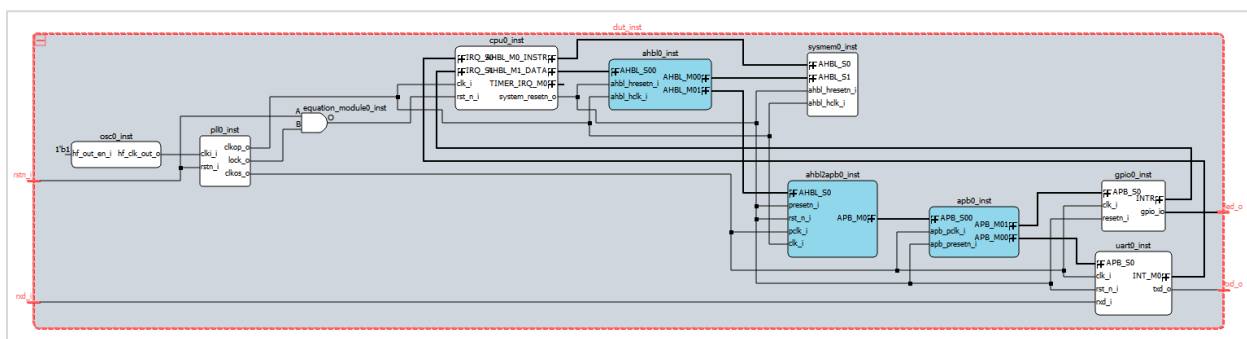

Figure 2.156. Whole SoC Design
10. Click the plus sign  of this dut_inst DUT block. You can see the whole SoC Design (Figure 2.156). Click the negative sign  to close the expanded bus.